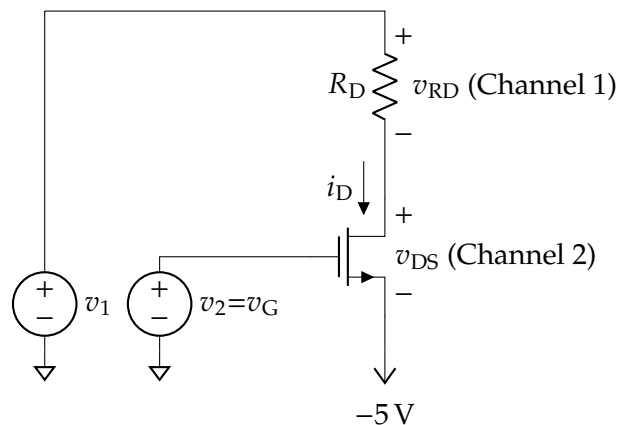

Figure 3.4: Test set for measuring the drain characteristics.
2. Set up the to measure the drain I-V characteristics of the transistor by building the circuit in figure 3.4 with $R_D = 470\text{ }\Omega$. Use W1 to generate v_1 and W2 to generate v_2 . Use the oscilloscope channel 1 to measure v_{DS} and channel 2 to measured v_{RD} . Make sure to connect the source of the NMOS in the ALD1106 to V_{SS} .